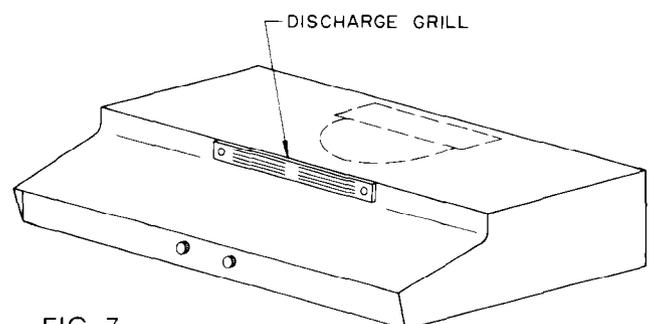

FIG. 7
1. To convert your range hood to ventless, remove the discharge grill shown in Figure 7 by pulling with fingers. Remove the metal back seal from behind the louver.